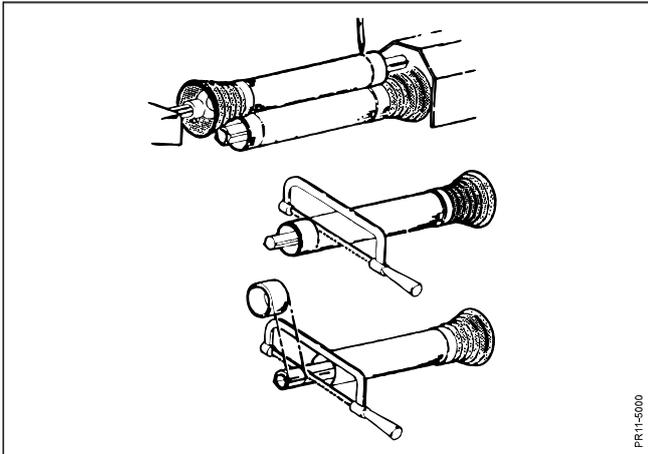

Fig. 2-25
**Fig. 2-25:** Mount the PTO shaft with the freewheeling towards the machine side. Check that the tubes do not touch each other (squeeze or bottom). If necessary, shorten all 4 tubes (see section on ADJUSTMENT OF THE PTO DRIVE SHAFT).